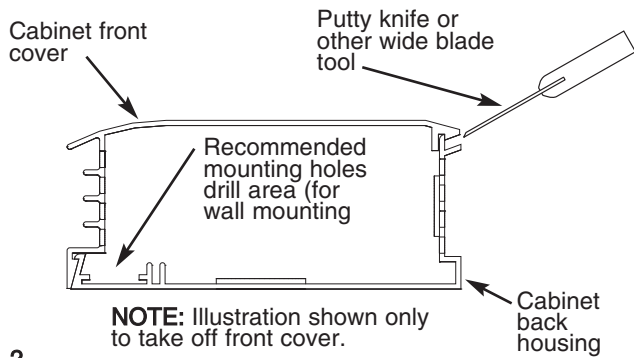

Fig. 2
16. To avoid damaging heater, do not use a screw driver to separate front cover from back housing. Use only a putty knife as shown, see Fig. 2
2. Remove front cover by laying the heater on its back and inserting a putty knife (or other thin, wide blade tool, 1" [25mm] wide minimum) approximately 6" (152mm) from the end of the heater and prying up as shown in Fig.2. This will spring the snap lock closure open. Repeat as required down the length of the heater until the front cover completely disengages from the heater back.
4. Drill the required size mounting holes in the heater housing (See Fig. 2 for recommended mounting hole location.)
5. Drill the required size mounting holes in all the heater housings. (See Fig. 2 for recommended holes in mounting hole location.)